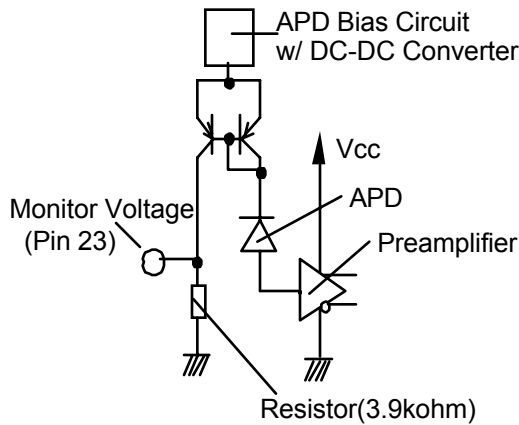

Figure 4 Input Power Monitoring Circuit
1. BER = 10-10 2. Refer to Figure 4